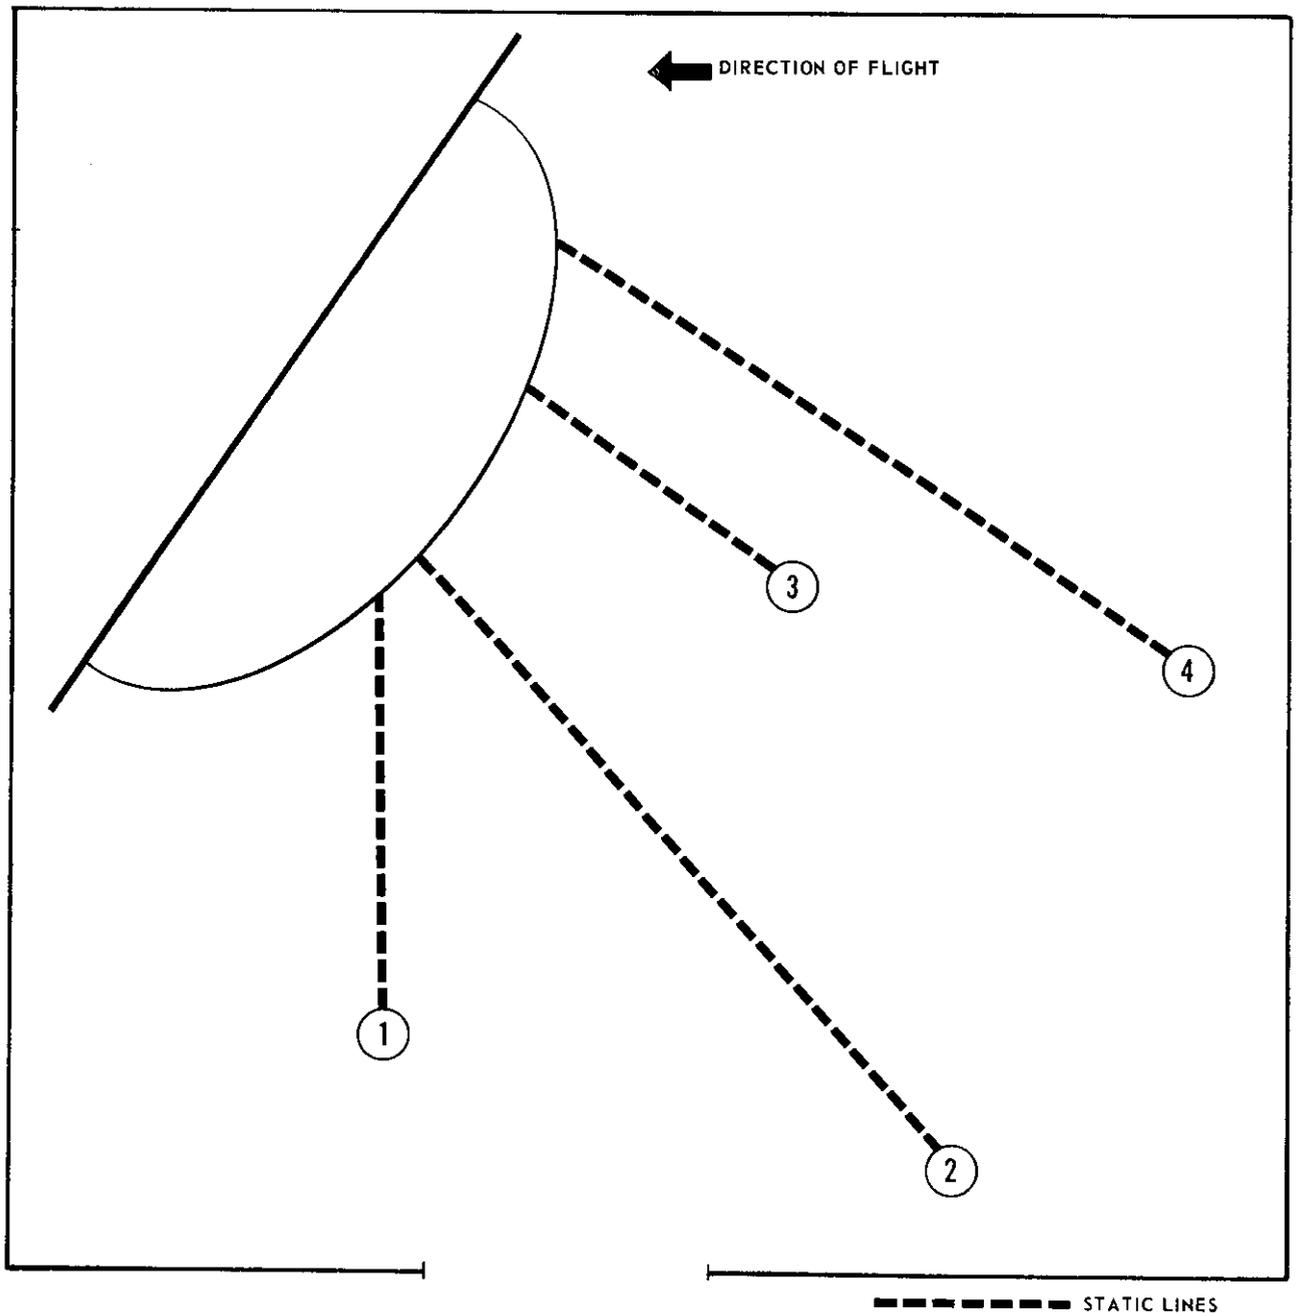

Figure 109. U-6A anchor line installation.
(2) Thread the running end of the cotton A7A strap through the two tiedown rings located just aft of the copilot's seat and attach it to the friction adapter so the periphery of the triangle formed by the cotton A7A strap is 5 feet. Fold the excess 10 feet of webbing and tape it near the friction adapter (fig. 109).